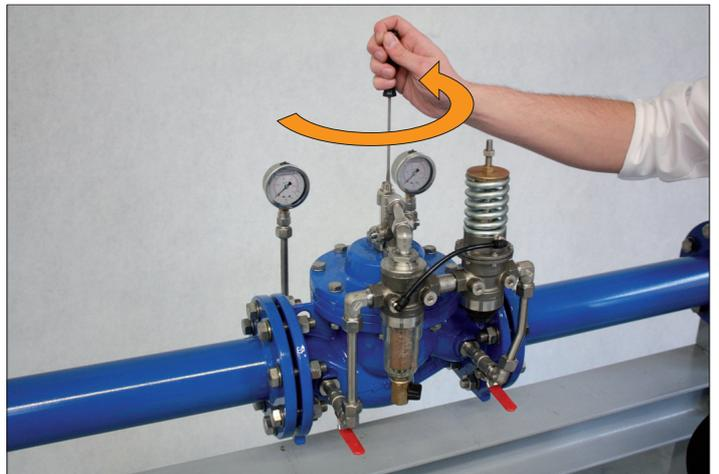

Figure 35: Opening the venting valve
- When you fill the valve, air may be trapped in the upper diaphragm chamber. To ensure proper function of the valve, the venting valve must be slightly opened and remain open until a steady jet of water emerges (This step is not necessary with varieties with automatic venting) (see Figure 35).